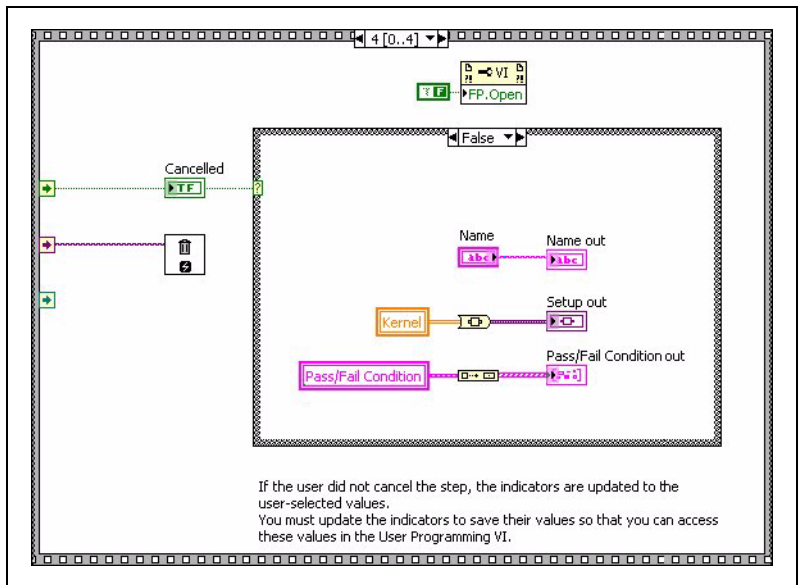

Figure 2. XXXX - User Interface Block Diagram for Setting Up Pass/Fail Handling
6. Build an array with all the **Pass/Fail Condition** clusters to handle exiting the custom step if the user does not cancel the custom step. Set the **Pass/Fail Conditions out** indicator on the last frame of the XXXX - User Interface VI block diagram, as shown in Figure 2.